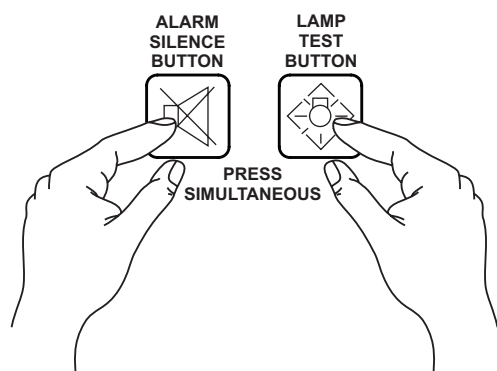

Figure 90. Alarm Silence/Lamp Test Buttons
1. Press and hold the **Alarm Silence** and **Lamp Test** buttons (Figure 90) at the same time for 10 seconds.